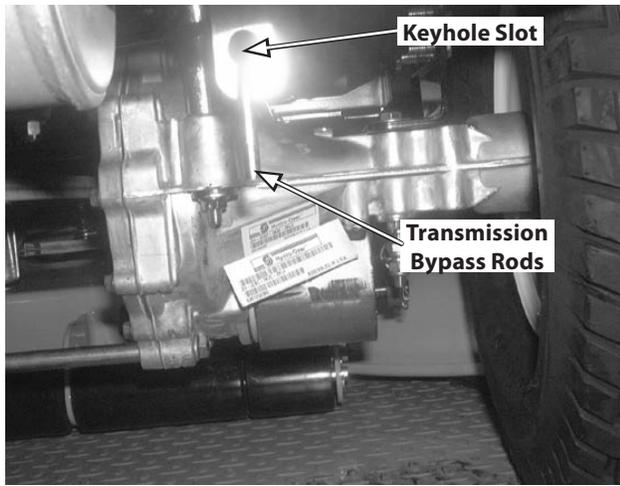

Figure 6-3
1. From beneath the frame platform and inside each rear wheel, locate the transmission bypass rods. Refer to Fig. 6-3.